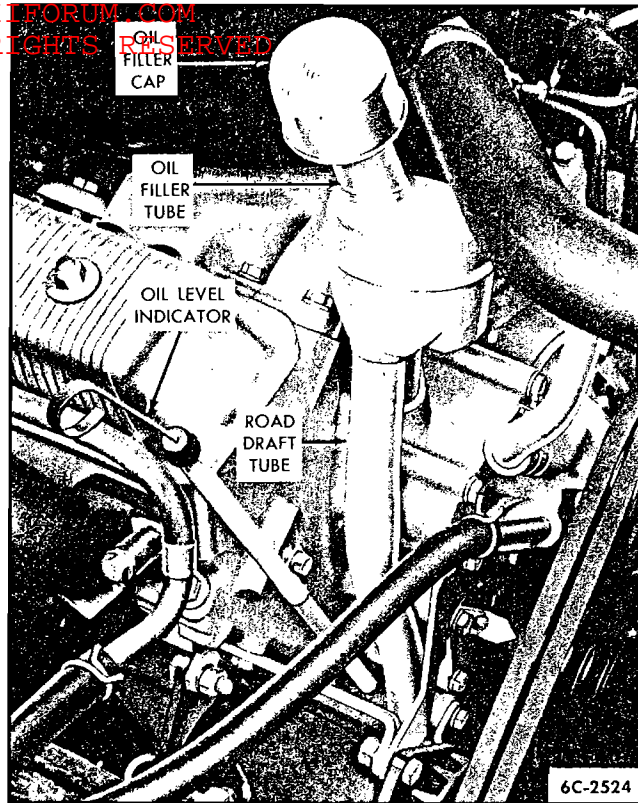

Fig. 2—Oil Level Indicator and Combination Oil Filler and Road Draft Tube
The oil level should be checked regularly and maintained between the “add oil” and “full” marks on the oil level indicator. The oil level indicator extends down into the oil pan through a guide in the right side of engine. See figure 2. Whenever the oil level drops to the “add oil” range it requires two (2) quarts of oil to bring it up to “full”. Do not overfill.